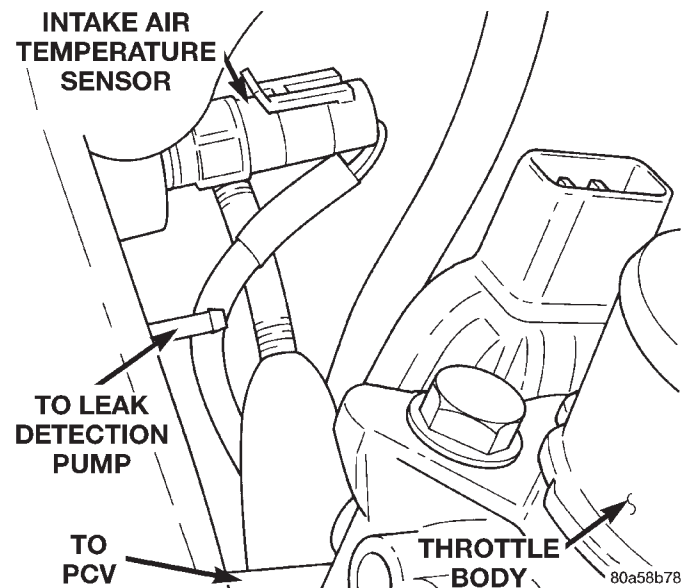

Fig. 24 Intake Air Temperature Sensor Connector, Leak Detection Pump Hose, and PCV Hose
(8) Disconnect intake air temperature sensor, leak detection pump and PCV hoses (Fig. 24).
(4) Install throttle body. Tighten fastener to 22 N·m (200 in. lbs.). Install transaxle to throttle body support bracket and tighten to 12 N·m (105 in. lbs.) at the throttle body first. Next tighten the bracket at the transaxle.
(5) Connect PCV, leak detection pump hoses, and intake air temperature sensor wiring connectors (Fig. 24).